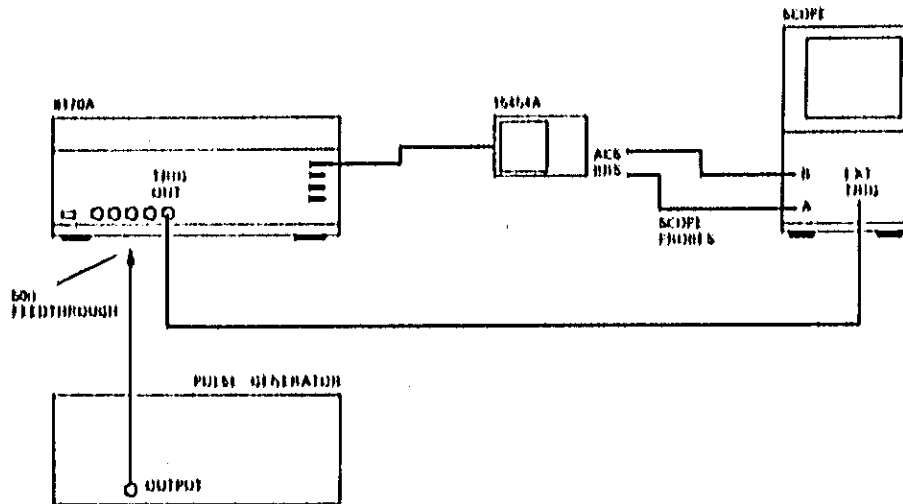

Figure 4-4, Test Setup for Ext Clock and State Function Test
1. Connect the equipment as shown in Figure 4-4.